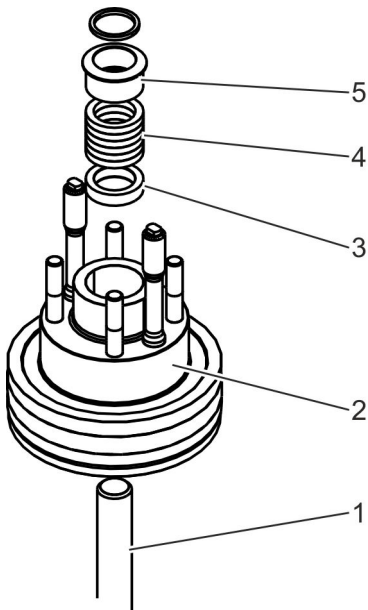

Fig. 42: Stem with packing and cover elements
18. ▶ Remove the gland follower (Fig. 42/5) from the stem (Fig. 42/1).
19. ▶ Remove the packing ring (Fig. 42/4) from the stem (Fig. 42/1).
20. ▶ Remove the guide sleeve or base ring (Fig. 42/3) from the stem (Fig. 42/1).
21. ▶ Remove the cover (Fig. 42/2) from the stem (Fig. 42/1).